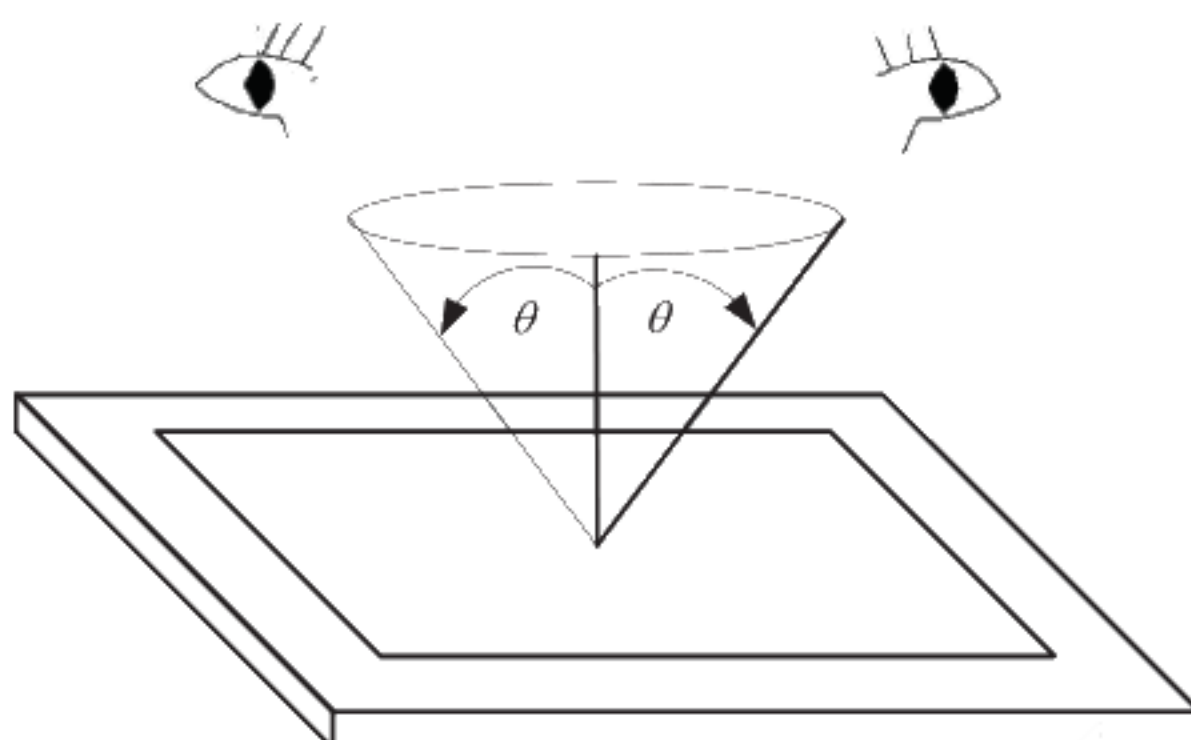

Fig 12.1
- The viewing zone is defined with angle θ shown in Fig. 12.1 The inspection should be performed within 45° when display is shut down. The inspection should be performed within 5° when display is power on.